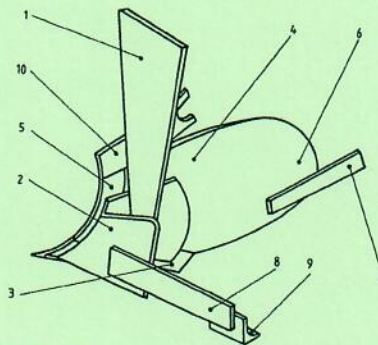

Figure 1. Parts of a mouldboard plough.
- c) Figure 1 shows the components of a mouldboard plough.